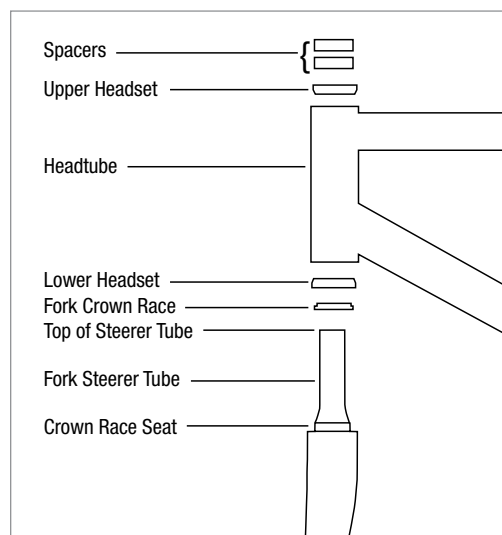

Figure 3
5. Install the bottom assembly of the headset per manufacturer's instructions and insert the fork into the headtube. Install the upper headset by following the manufacturer's instructions (Fig. 3).